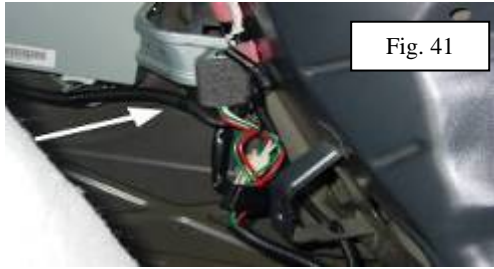

Fig. 41
22. Repeat step 7 & 8 using the T-Connector ends containing the **Green & Red** wire (Figs 41).